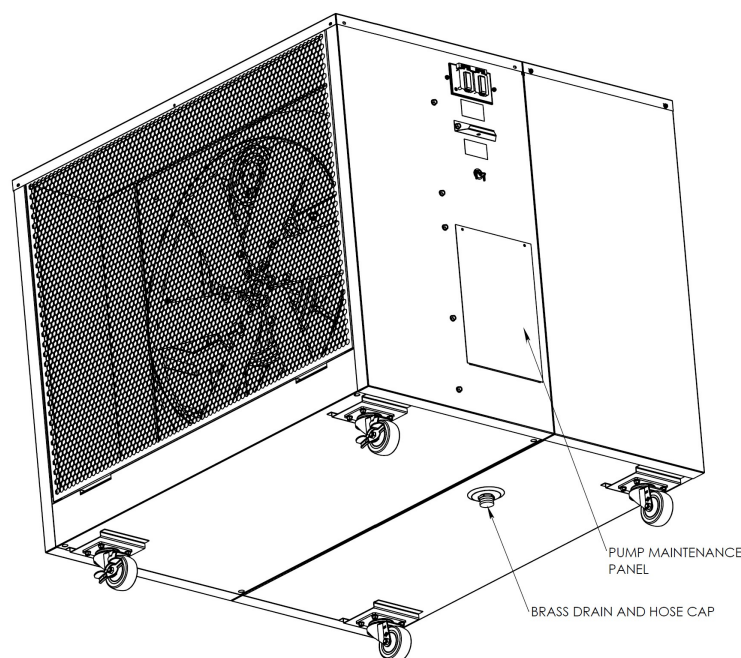

Fig. 2
- Move cooler to the area appropriate to dump water. Remove brass drain cap as shown in fig 2. Drain all of the water out of the cooler when not used for prolonged periods, particularly at the end of the season (winter).